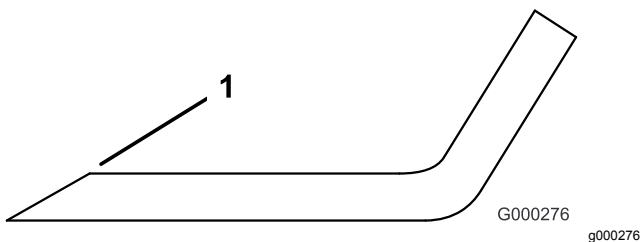

Figure 99
1. Use a file to sharpen the cutting edge at both ends of the blade (Figure 99).